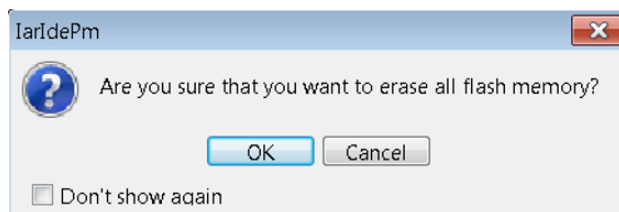

Figure 30. Erase All Flash Memory
5. The window shown in Figure 30 appears. Press **OK**.